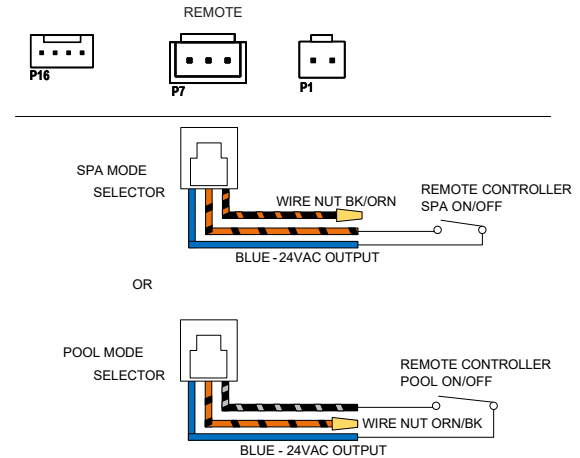

Figure 60. 2-Wire Remote Harness Installation
5. On the 3-wire remote harness, connect the BLUE wire to one side of the remote automation controller and connect the other side to either the ORANGE/BLACK wire for "SPA" operation or the BLACK/ORANGE wire for "POOL" operation. See Figure 60.
7. Install the "3-wire Remote Harness" to the "P7" connector and turn power "ON" to the heater. See Figure 60.